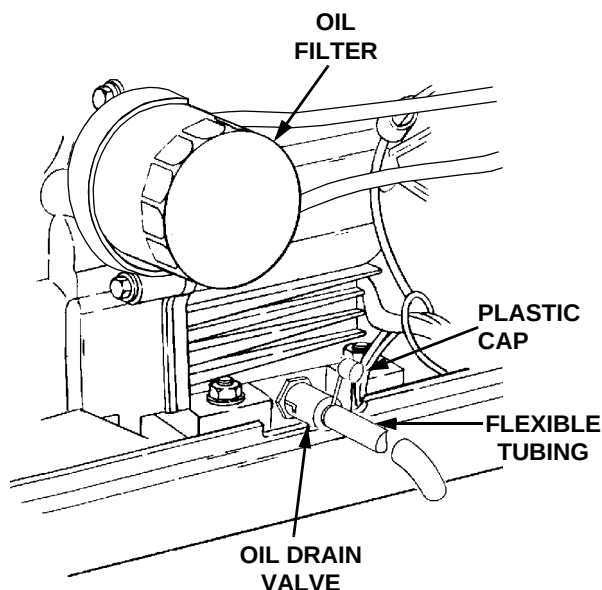

Figure 19
The oil filter is located behind the left side panel and is mounted on the oil cooler adapter of the engine (See Figure 19).
3. Unseat the plastic dust cap from the engine oil drain valve. To prevent loss of the cap, do not remove the cap's retaining ring from the drain valve (Refer to Figure 19). Remove the dipstick and oil fill cap.